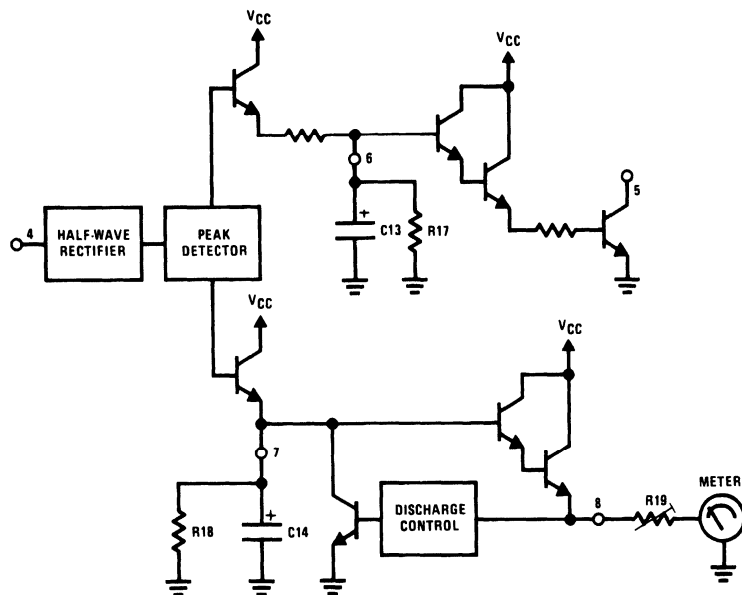

FIGURE 7. Auto Level-Meter Circuit
#### AUTOMATIC LEVEL CONTROL—ALC (Figure 7)
**METER DRIVING—MOTIONAL PEAK LEVEL RESPONSE** (Figure 7)